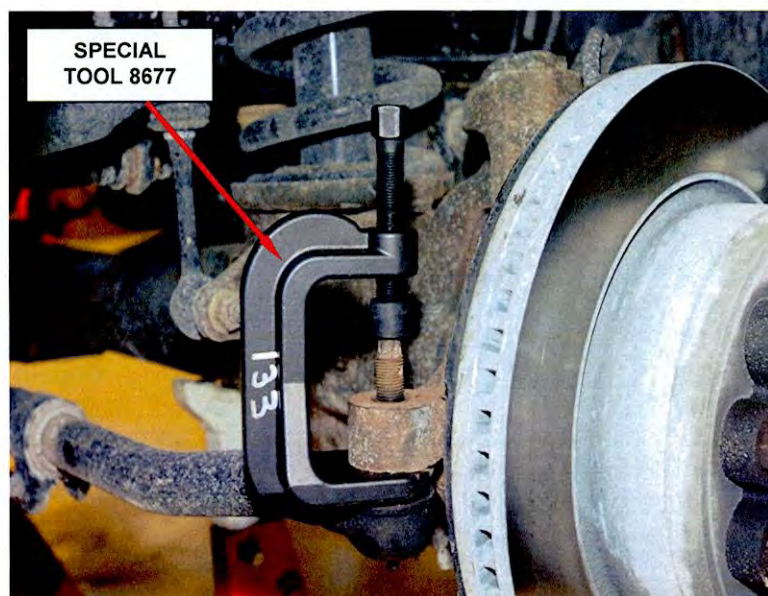

Figure 2 – Special Tool 8677
6. Remove the tie rod from the left knuckle using Special Tool 8677 (Figure 2).